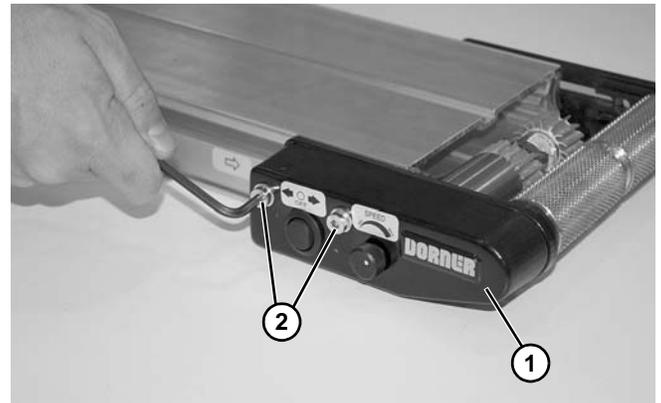

Figure 94
2. Remove drive side cover (**Figure 94, item 1**) by removing two iDrive cover screws (**Figure 94, item 2**).